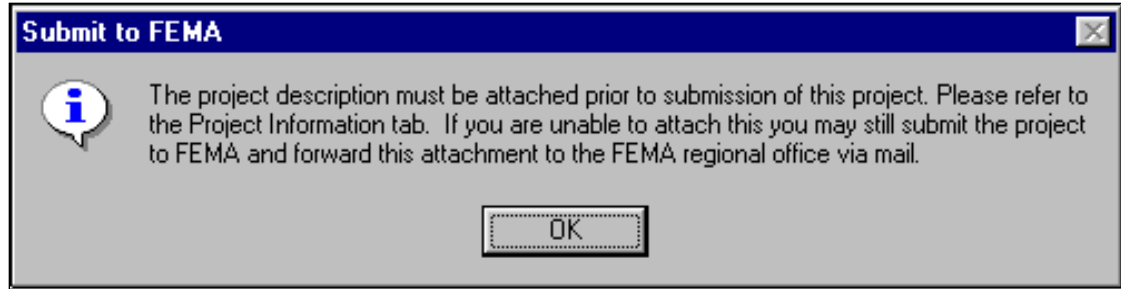

Figure 6-121: Missing Required Attachment Message
- a. For any missing attachment, you will get the following warning message (Figure 6-121) when you click the VERIFY button: